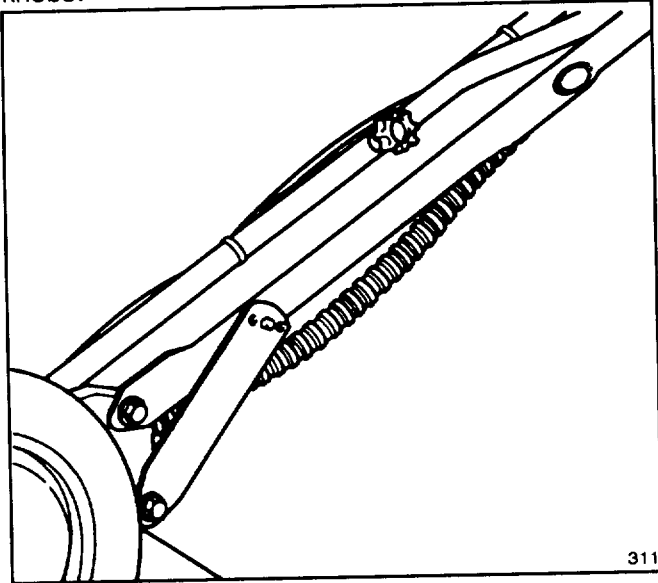

Figure 1
## INSTALL HANDLE (Fig. 1)
3. Secure control cables to right handle with (2) cable ties (Fig. 1).